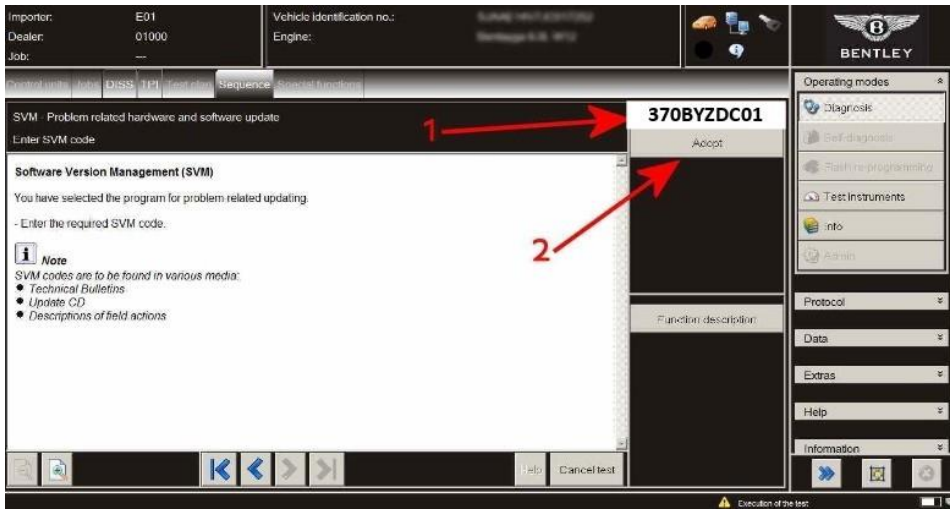

Figure 2
4) Referring to Figure 2–At the SVM screen (1) enter the specific SVM code 370BYZDC01 and then select Adopt (2)